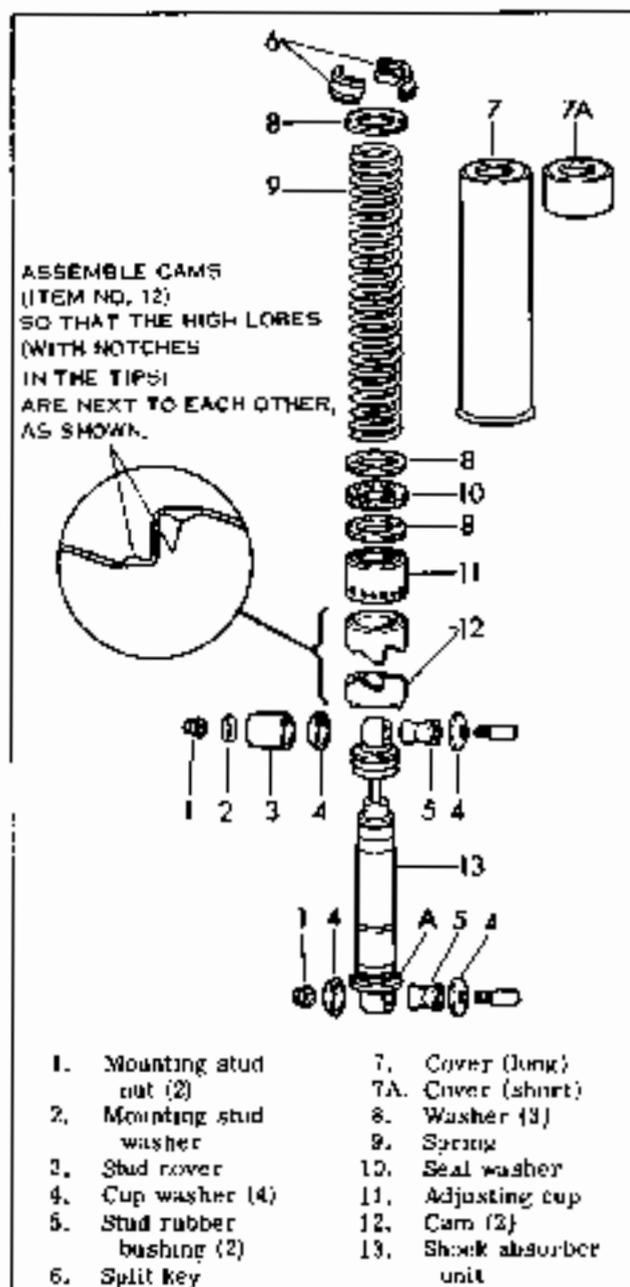
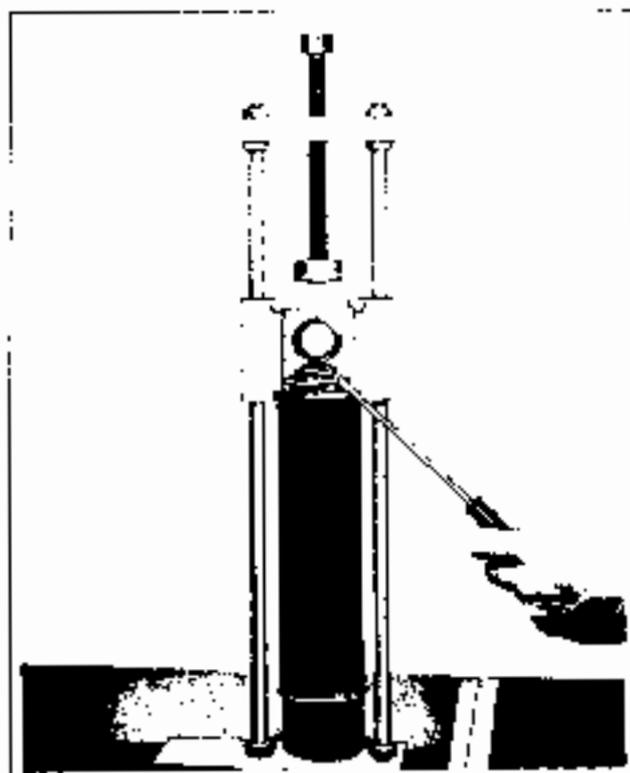

Figure 2-35. Later Rear Shock Absorber - Exploded View
Figure 2-36. Disassembling Shock Absorber
DISASSEMBLING REAR SHOCK ABSORBER (Figure 2-35)
Remove top and bottom mounting stud nut (1), mounting stud washer (2), upper stud cover (3) and cup washer (4). Slip shock absorber assembly off upper and lower studs. Push rubber bushings (5) from shock absorber mounting eyes. Place shock absorber in Rear Shock Absorber Tool, Part No. 97310-52A (see Figure 2-82) with split key (6) up. Compress absorber spring enough to remove each half of split key (6) from flange on shock eye as shown in Figure 2-36. Release spring compression and remove absorber assembly from tool. Remaining items can be removed in order shown in Figure 2-35.
Apply a thin coat of grease to all surfaces of both cams. Note that cams (12) are identical and be sure to position cam lobes correctly as shown in Figure 2-35 inset. Place assembly in compressor tool and compress spring enough to install key halves (6). Release spring compression. Keys will lock into place in inside diameter of covers 7 or 7A.
IMPORTANT: Install each shock absorber on motorcycle with slot in cam support (A, Figure 2-35) facing toward wheel.
ADJUSTING FRONT BRAKE CABLE (Figure 2-36)